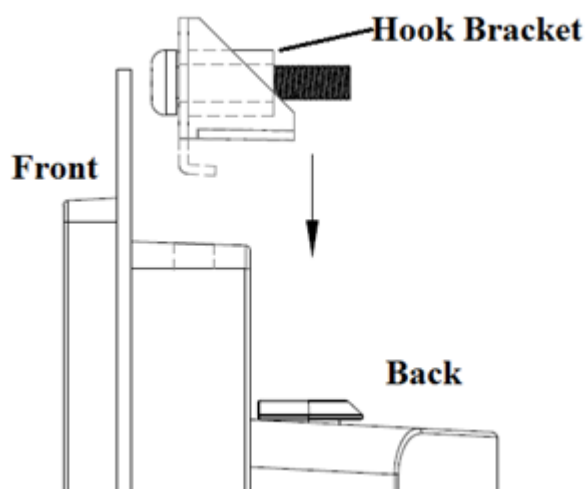

Figure 2.25 Hook Brackets for Panel Mounting
2. Put the machine into the cabinet and take out the eight hook brackets from the accessory box. (See Figure 2.25)